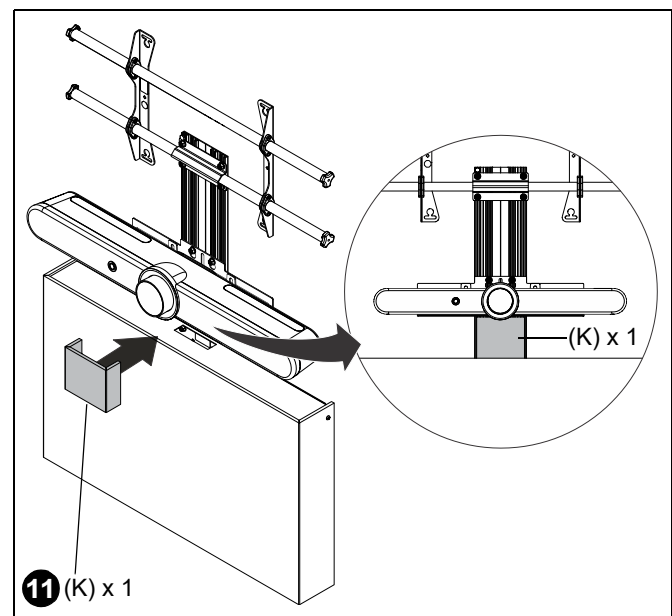

Figure 27
11. Press the edges of the small cover (K) into the outer slots of the upright extrusion (A) between the camera and the upper surface of the storage box (H). (See Figure 27)